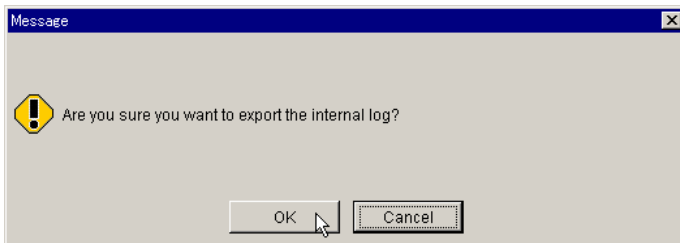

Figure 4.18 Export Internal Log Confirmation Message
4. Select **Apply**, and then select **OK** on the confirmation message (see Figure 4.18).